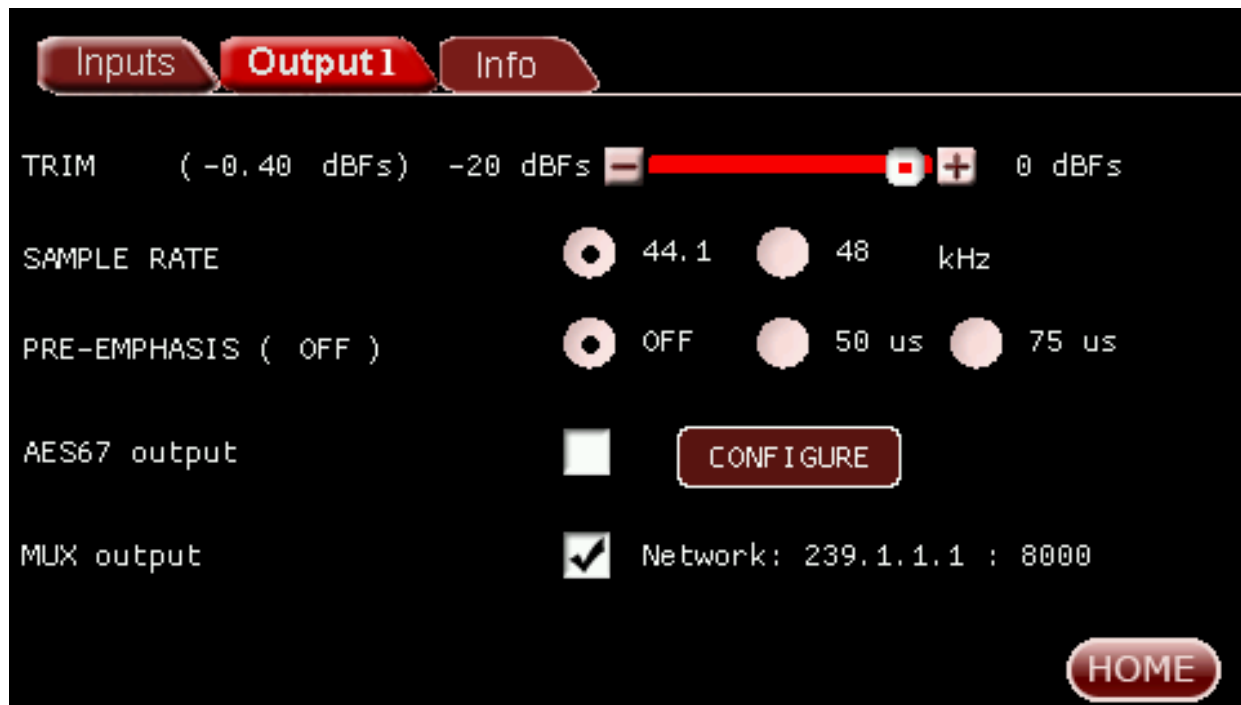

Figure 3.3.12: Output Configuration of Q24-4880 – MUX output ticked
- When ticked, the output of the channel is sent in the Multiplexer output (MPEG transport stream, see Section 2.6). The network address and port of the stream are shown next to it (for example Network: 239.1.1.1 : 8000), as shown in Figure 3.3.12.